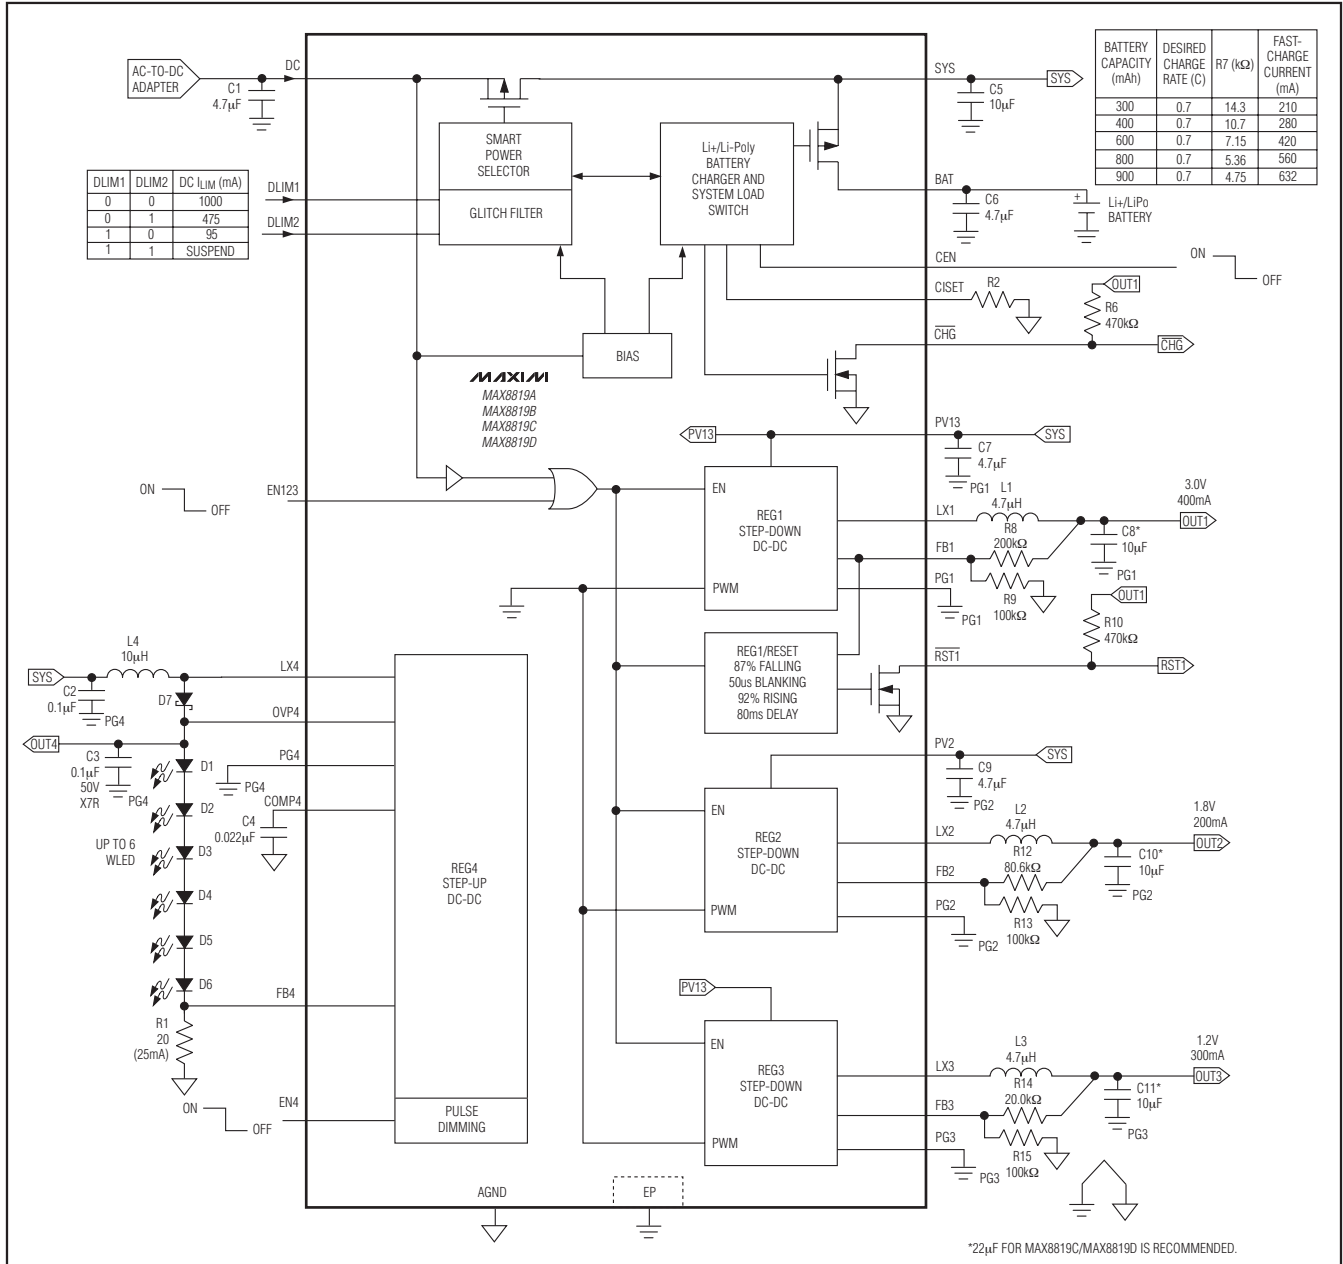

Figure 1. Functional Diagram/Typical Applications Circuit
**Note 8:** The skip-mode current threshold is the transition point between fixed-frequency PWM operation and skip-mode operation. The specification is given in terms of output load current for inductor values shown in the typical application circuit (Figure 1).
The MAX8819\_ is a complete power solution that includes a battery charger, step-down converters, and WLED power. As shown in Figure 1, the IC integrates a DC power input, Li+/Li-Poly battery charger, three step-down converters, and one step-up converter for powering